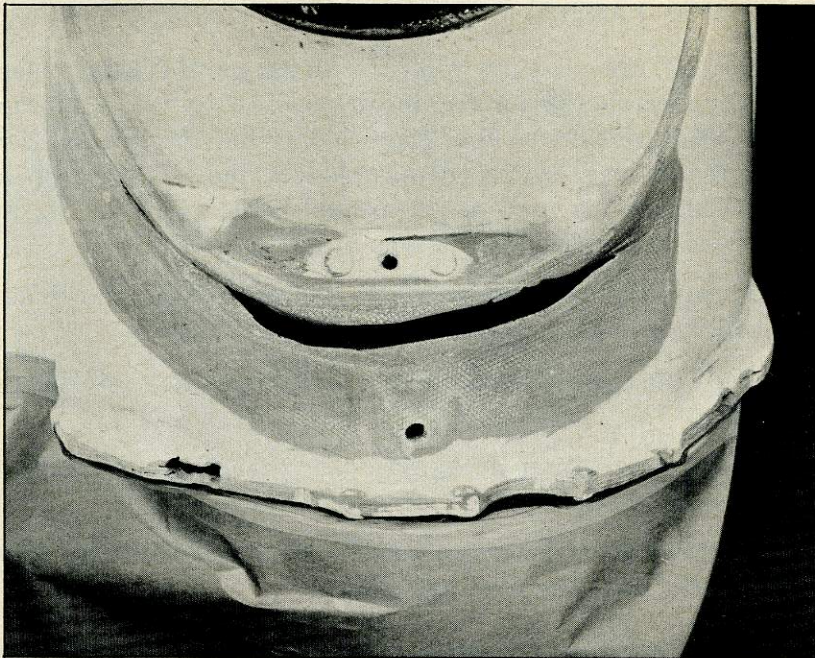

Figure 21
2. Bevel the edge of the fracture at approximately a 30° angle (fig. 21).